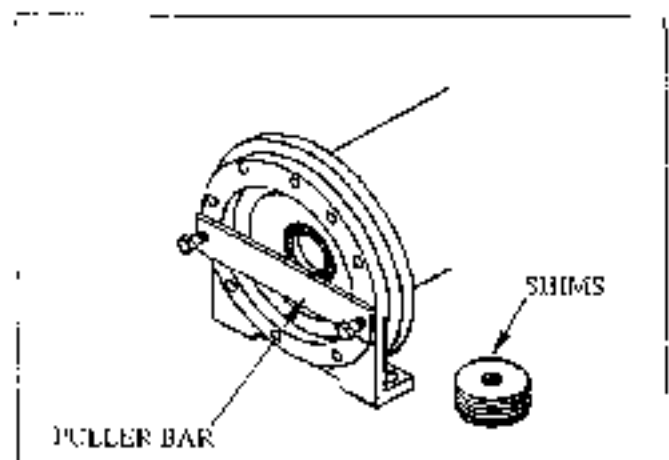

Figure 20
- (19) Install a tube spacer against the drum hub and, using shims as necessary, install the puller bar as shown in Figure 20. Block against the drum and tighten the capscrews in the outer holes of the puller bar equally to remove the planetary drive mount.